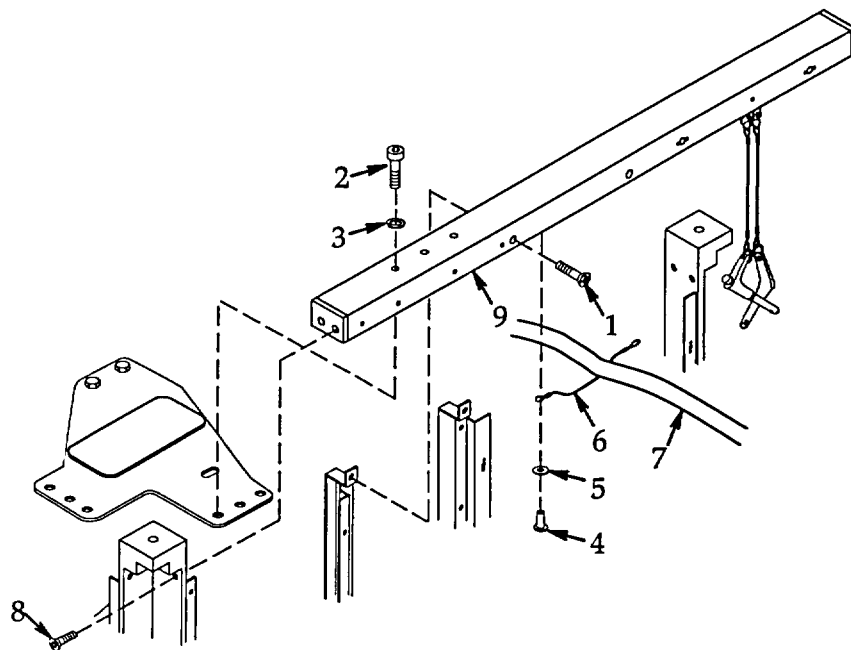

Figure 4-54. Front Rail.
a. **Removal.** See figure 4-54.
b. **Installation.** See figure 4-54.
- (1) Install front rail (9) and align mounting holes. Secure with four screws (8).
- (2) Place lanyard (6) around cables (7) and secure with flat washer (5) and rivet (4).
- (3) Install three new lock washers (3) and screws (2).
- (4) Install two screws (1).
- (5) Install supply panel per paragraph 4.25.
- (6) Install front screen per paragraph 4.24.
- (7) Lower and secure cover per paragraph 4.2.
- (8) Connect FDECU to power source and operate per paragraph 2.4.